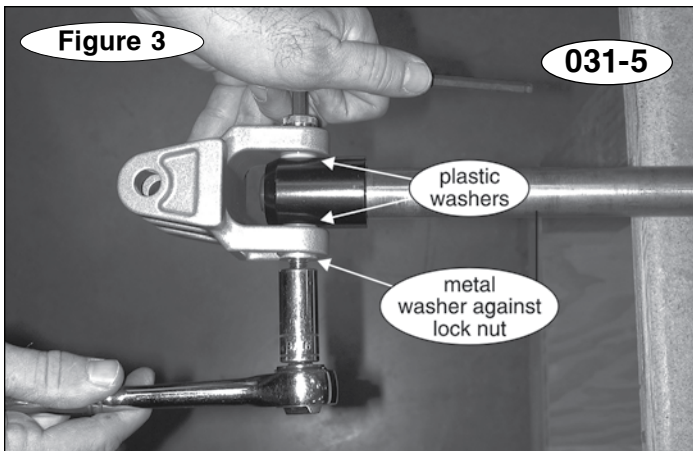

Figure 3
3. Attach one of the replacement swivel ears to the round nut – use one of the supplied Allen head shoulder bolts, two plastic washers (one against either side of the round nut), and one lock nut, as shown in Figures 3 and 4.
*Note: for 031-5 adaptors **ONLY** – insert one of the metal washers against the lock nut, as shown in Figure 3.*